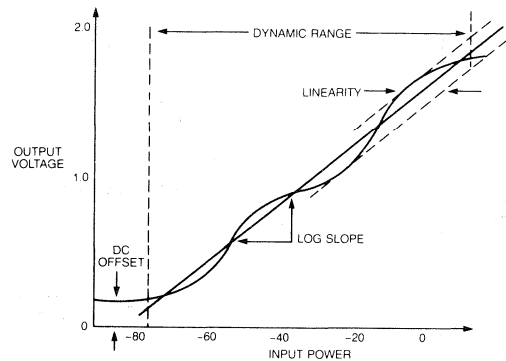

Figure 6. Definition of Terms
Log linearity is the maximum deviation in dB (referred to the input) from a best fit straight line of the input/output characteristic over the dynamic range. See Figure 6.
The log slope is the average slope of the input/output characteristic over the dynamic range, expressed in millivolts per dB. See Figure 6.
D.C. offset is the residual D.C. output of a log amp with no signal applied to the input. See Figure 6.